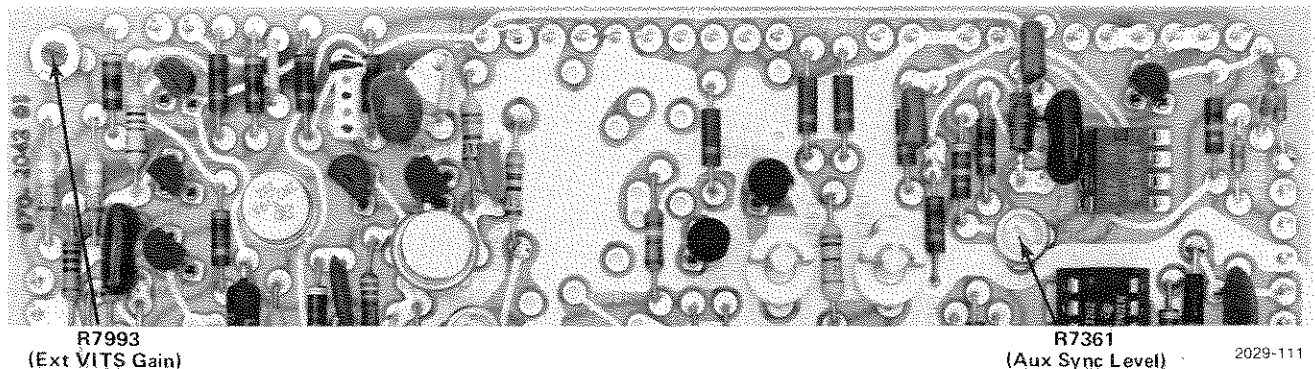

Fig. 3-42. Auxiliary sync level and external VITS gain adjustment locations.
ADJUST—R7361 (Aux Sync Level), see Fig. 3-42, to match the levels as shown in Fig. 3-43.
**ADJUST**—R7993 (Ext VITS Gain), see Fig. 3-42, to match the external and internal VITS 100% levels.